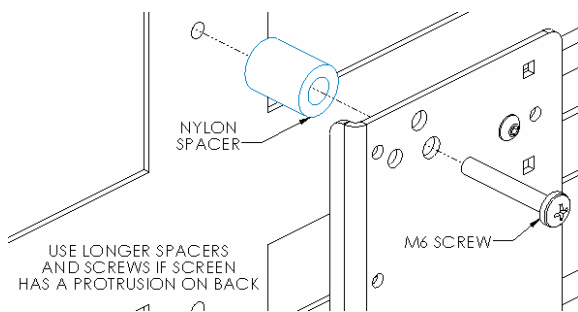
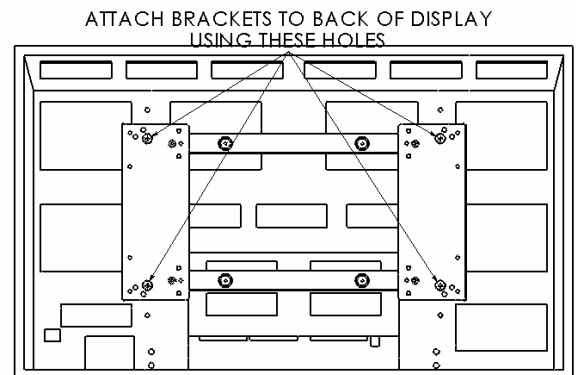

Figure 8
Figure 9
5. **Bracket Installation:** Place Nylon spacers over mounting holes of screen and attach brackets to back of display using the M6 screws (see Figure 8 & Figure 9). If screen has a box protruding out the back, use the longer spacers and screws. Do not over tighten screws.